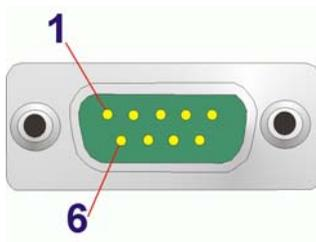

Figure 3-24: RS-422/485 Serial Port Pinout Location
- CN Pinouts:** See Table 3-9 and Figure 3-24